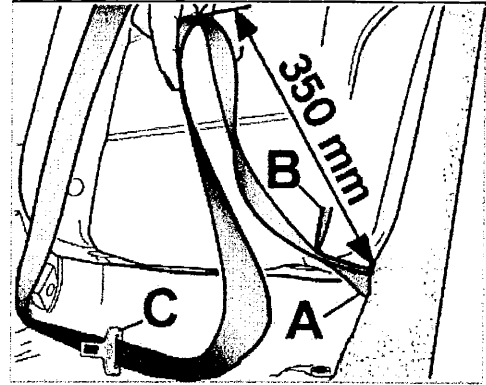

Figure 4
11. Pull the seat belt straight up from the fastening screw (Figure 4, Item A) and fold it forward to form a loop of approx. 350 mm in length starting from the fastening screw (Figure 4).
The data sticker (Figure 4, Item B) is located on the back of the seat belt. The buckle for the seat belt lock (Figure 4, Item C) is located in front of the loop you formed.